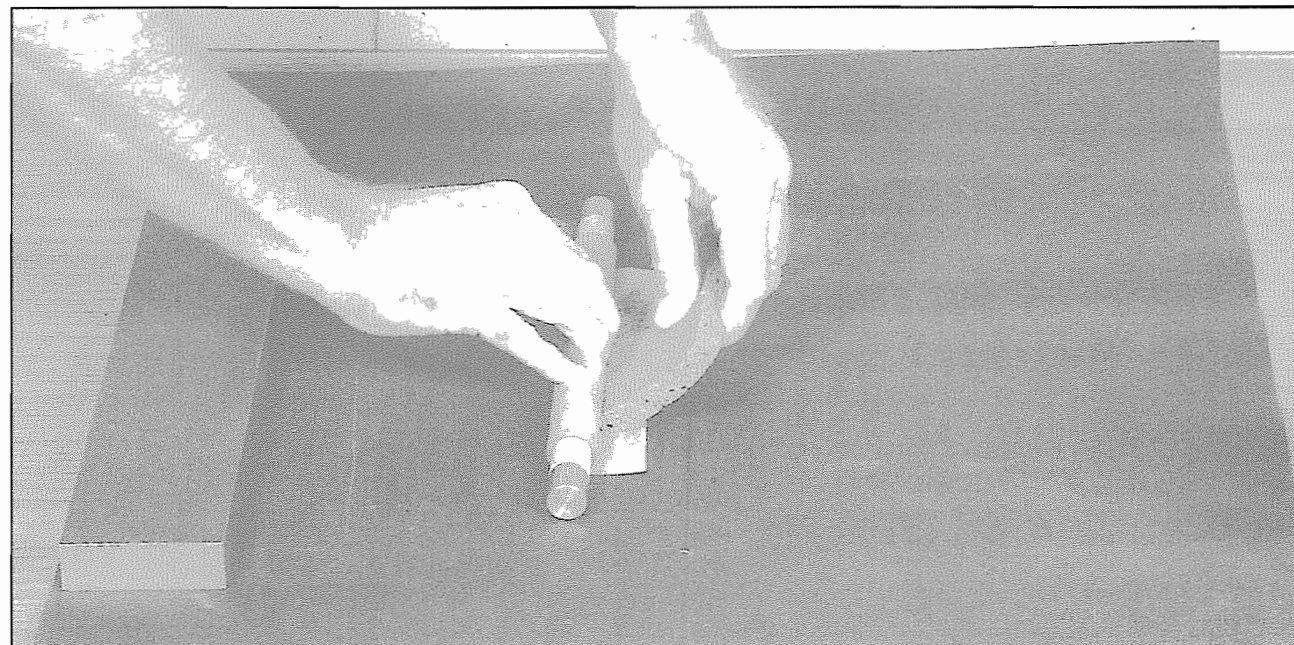

Figure 8-13. The sponge dampens the end of the paper and the surface of the tube beneath it..
9. Squeeze the dampened sponge *between* the end of the paper and the tube, dampening *both* surfaces in the process (Figure 8-13). *Without delay*, roll the bar forward, and rock it back and forth over the end of the paper until the end is firmly bonded.